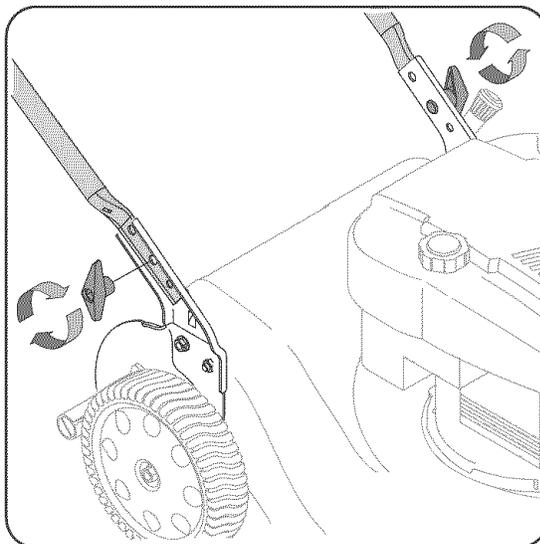

Figure 2
2. Replace and tighten hand knobs removed earlier securing lower handle to handle brackets. See Figure 2.
3. **Recoil Start:** Grasp recoil starter handle and pull rope out with a rapid, continuous, full arm stroke. See Figure 2. Keeping a firm grip on the starter handle, let the rope rewind slowly. Repeat until engine cranks. Let the rope rewind each time slowly.